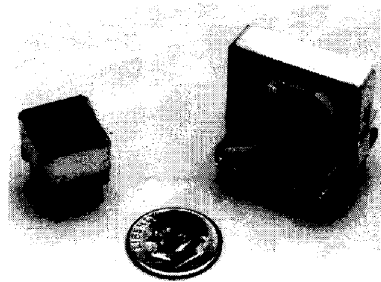

Figure 4. LAN Transformers. PE-65342 (Left), PE-65329 (Right)
insulation. The transformers used in both applications are shown in Figure 4. The PE-65329 for Ethernet (right) achieves 3700V isolation, while the PE-65342 for Cheapernet (left) provides 500V isolation. These transformers are constructed with low loss core material and low resistance wire, to further improve efficiency.
**Note 2:** A 500V version of the Ethernet transformer (PE-65330) is available in the 0.5 inch package in Figure 4.